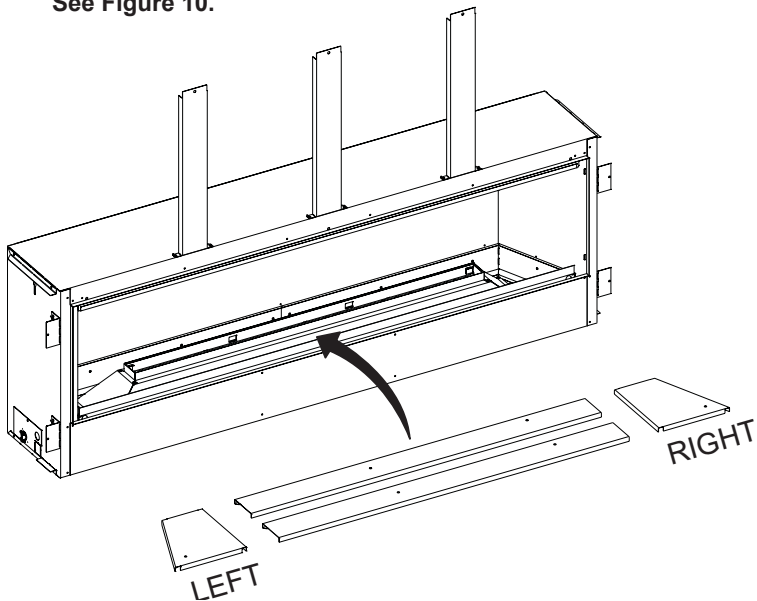

Figure 10
14. Reinstall the glass support screens removed in step 3. See Figure 10.